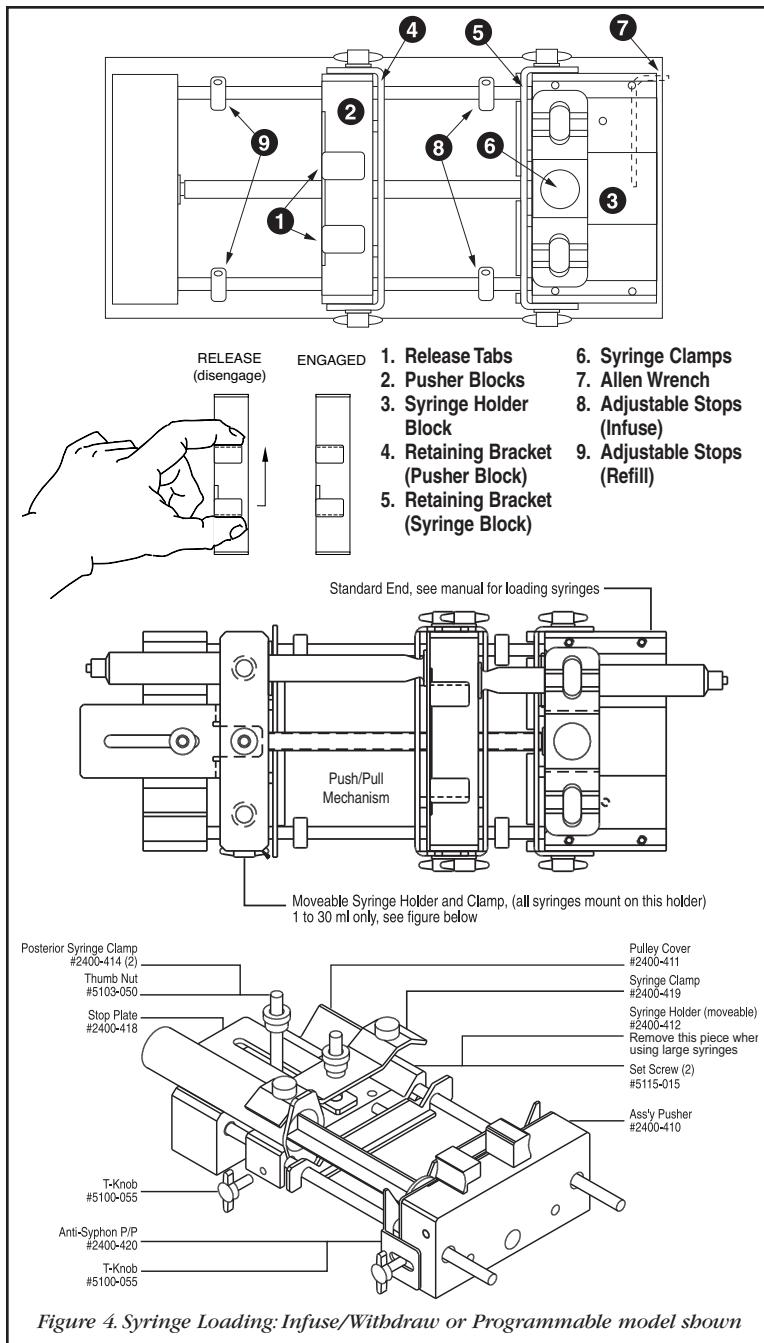

Figure 4. Syringe Loading: Infuse/Withdraw or Programmable model shown
The Pusher Block (2) and Syringe Holder Block (3) are fitted with movable retaining brackets (4 and 5) (Available as an option for the PHD 22/2000 Infusion model as an Anti-siphon kit - Catalog # MA1-70-2015) which hold the syringe barrel and plunger firmly when refilling. When loading the syringe into the pump it is necessary to adjust these retaining brackets and the Adjustable Stops (8 & 9). The Pusher Block (2) is fitted with Release Tabs (1) to release the drive nut from the leadscrew so that the Pusher Block (2) can be moved freely on the leadscrew to facilitate loading the syringe. Refer to Figure 4.
1. Squeeze the Release Tabs (1) towards each other and move the Pusher Block (2) to the left allowing enough space for the syringe being used to fit between the Pusher Block (2) and the Syringe Holder Block (3).
2. Loosen the four screws to free the retaining brackets (4 and 5) on the Pusher Block (2) and Syringe Holder Block (3). This step is not required for the PHD 22/2000 Infusion model which is not equipped with retaining brackets (4 & 5) or Adjustable Stops (9).
3. Locate Syringe Clamp (6) and determine if clamp is in the correct position to firmly hold the desired syringe. Rule of thumb is that if the syringe is 20ml or larger, the tips of the clamp should be pointing down. If it is required to change the orientation of the clamp, unscrew the plastic knob located in the center of the clamp by turning it counter-clockwise (to the left). Remove the knob, lift the clamp off the shaft, flip the clamp over and place back on the shaft, then tighten the knob by turning it clockwise (to the right).
4. Lift up on the spring loaded Syringe Clamp (6) and rotate it 90° to allow clearance for the syringe. Place the barrel of the syringe on to the Syringe Holder Block (3) and rotate the clamp over the syringe. Ensure that the syringe barrel flange and plunger flange are located within the retaining brackets on both the Pusher Block (2) and the Syringe Holder Block (3). This step is not required for the PHD 22/2000 Infusion model which is not equipped with retaining brackets or Adjustable Stops (9). Lower the Syringe Clamp (6) down onto the syringe. CAUTION: Do not let the Syringe Clamp snap down on the syringe. Doing so may crack or break a glass syringe.
5. Ensure that both retaining brackets (4 and 5) are tight against the syringe barrel flange and plunger flange, then tighten the screws on the retaining brackets on the Pusher Block (2) and the Syringe Holder Block (3). This step is not required for the PHD 22/2000 Infusion model which is not equipped with retaining brackets or Adjustable Stops.
6. Squeeze the Release Tabs (1) and move the Pusher Block (2) to the right until the syringe plunger is located as far into the syringe as it will travel. Then squeeze the Release Tabs (1) and move the Pusher Block (2) to the left just enough so that the end of the syringe plunger is not touching the inside end of the syringe barrel and release the Release Tabs (1). This step is not required for the PHD 22/2000 Infusion model which is not equipped with retaining brackets or Adjustable Stops.